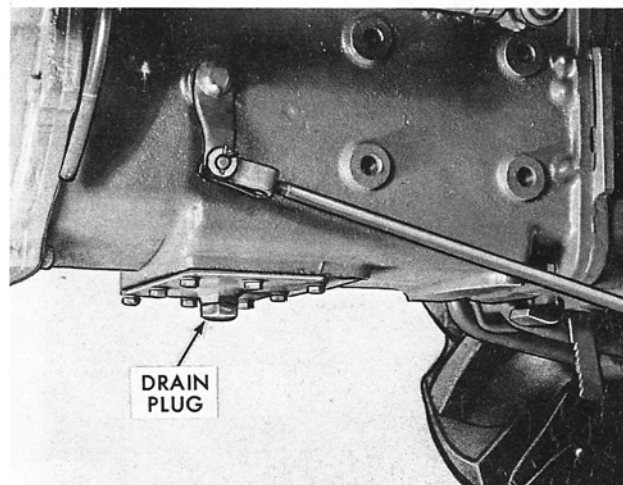

Figure 32
1. Drain and discard the hydraulic reservoir oil by removing the hydraulic reservoir drain plug, Figure 32. Reinstall the plug after the oil has drained.